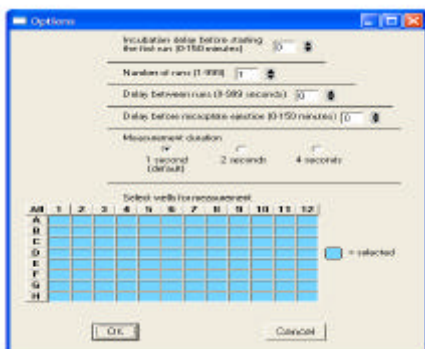

Figure 17
1. Click on "Options" to access the options screen as shown in Figure 17.